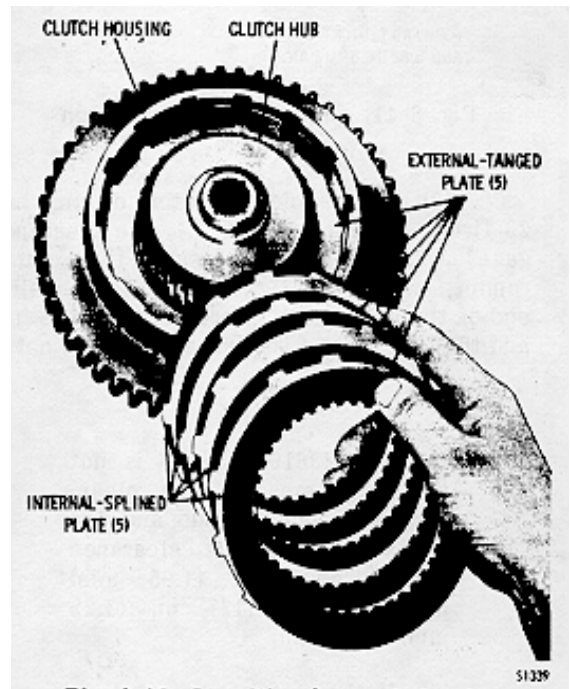

Fig. 6-45. Installing forward clutch plates
(5) Install the forward clutch hub into the clutch housing (fig. 6-45).
(6) Beginning with an external-tanged clutch plate, install the clutch package removed in b(9) or (14), above (fig. 6-45).
(7) Install fourth-clutch driving hub 23 (A, foldout 6) into housing assembly 7 and secure the hub with snapping 24.
(15) Install hook-type sealing 1 onto the turbine shaft.